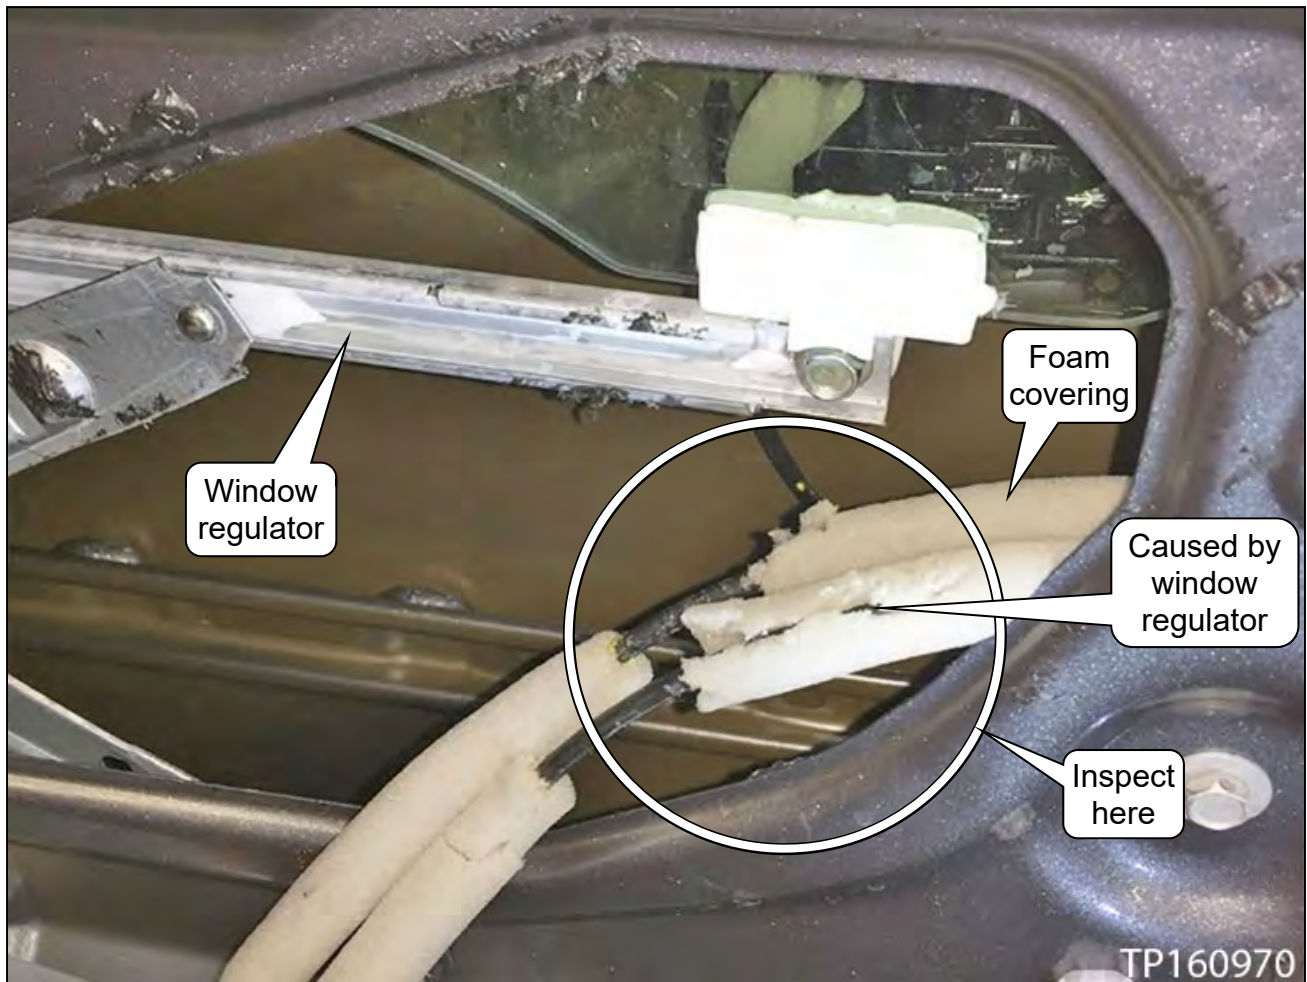

Figure 33
1. Inspect the foam covering on the cables for damage (see example in Figure 33).